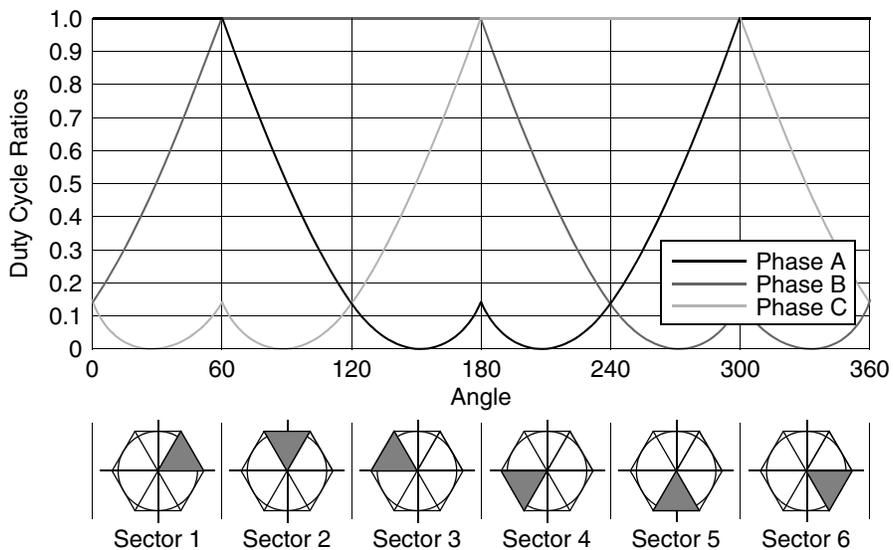

Figure 4. Space Vector Modulation with O_{111} Nulls Technique
- Space Vector Modulation With O_{111} Nulls (SVM_U7N)** - The input parameters are orthogonal components of an applied motor voltage vector alpha and beta in the range (-1,1). Figure 4 depicts the modulation technique.